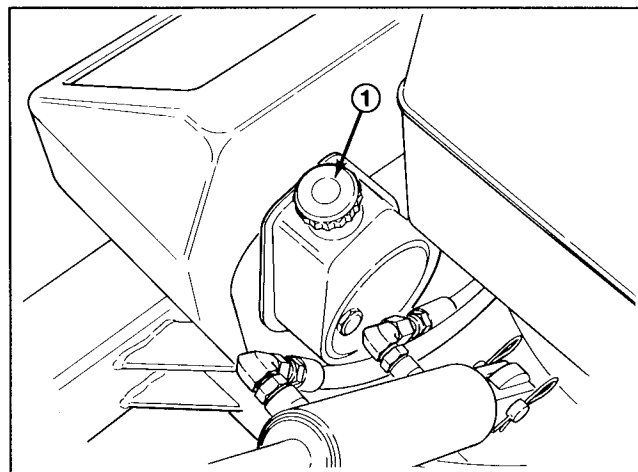

Figure 36
2. Position a drain pan under chassis below pump assembly (Fig. 36).